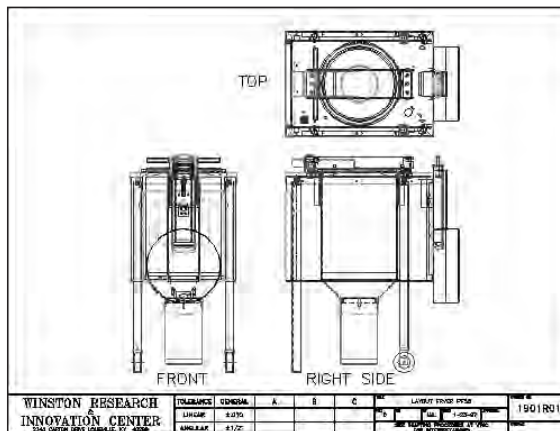

Figure 11-17: This drawing has 44 layers.
2. Save the file as `ab11-03.dwg` in your **AutoCAD Bible** folder. This drawing is shown in Figure 11-17.